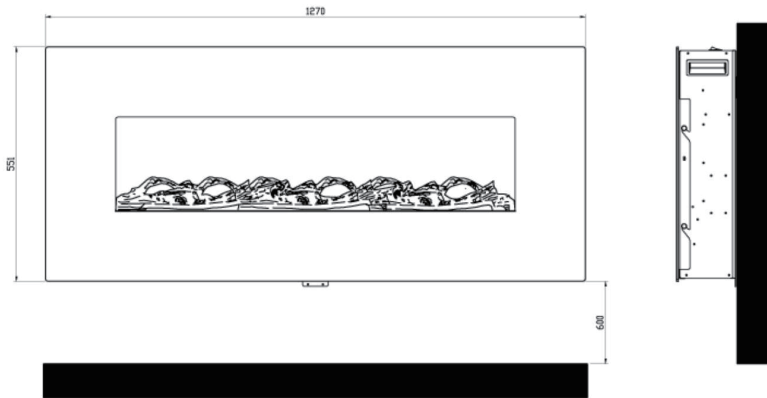
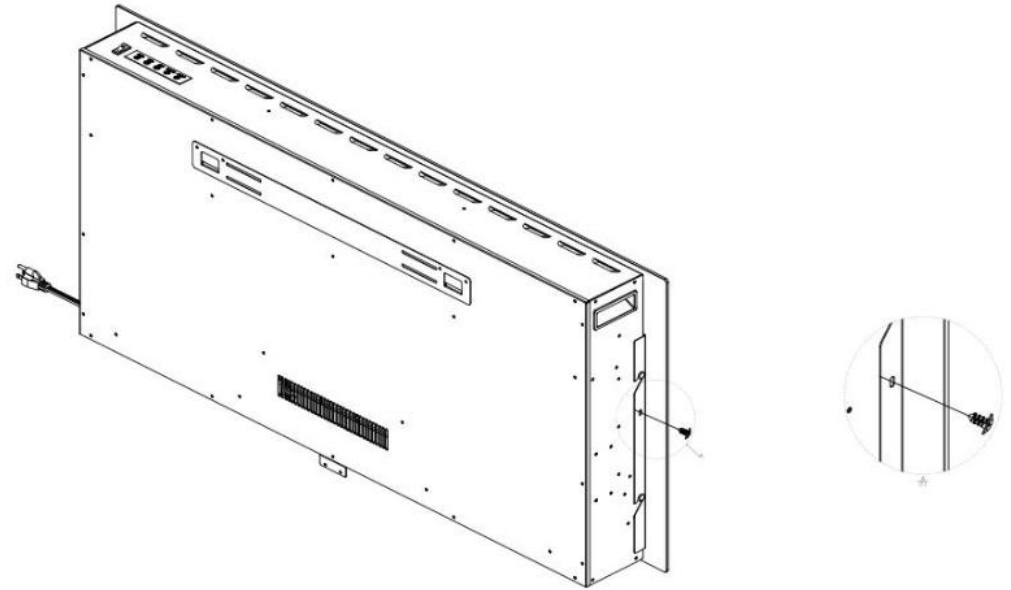

Fig.1
Fig.5
### Installation (see Fig1 ~ Fig 5)
- Fix the tempered glass with 2pcs of 4\*8mm screws provided.(Fig.5)